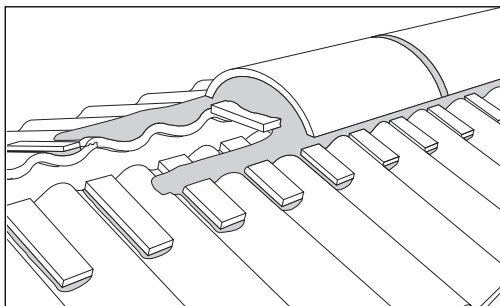

Fig 23 – Mortar bedded ridge using dentil slips for deep profiled tiles
- 10 A mortar bed approx 10mm thick should be provided to bed the dentil onto (Fig 23).